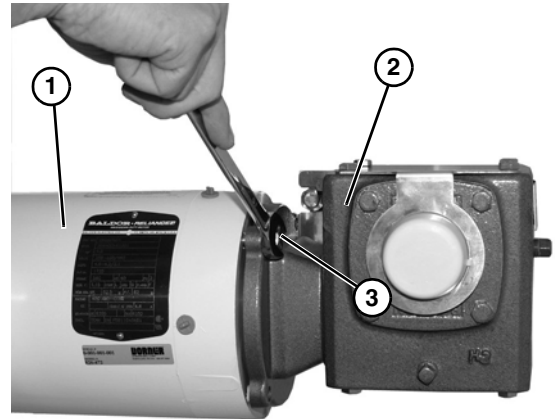

Figure 41
8. Secure motor (**Figure 41, item 1**) to gear reducer (**Figure 41, item 2**), with four bolts (**Figure 41, item 3**).
9. Tighten four bolts (**Figure 41, item 3**) to 65 in-lbs (7.3 N-m).